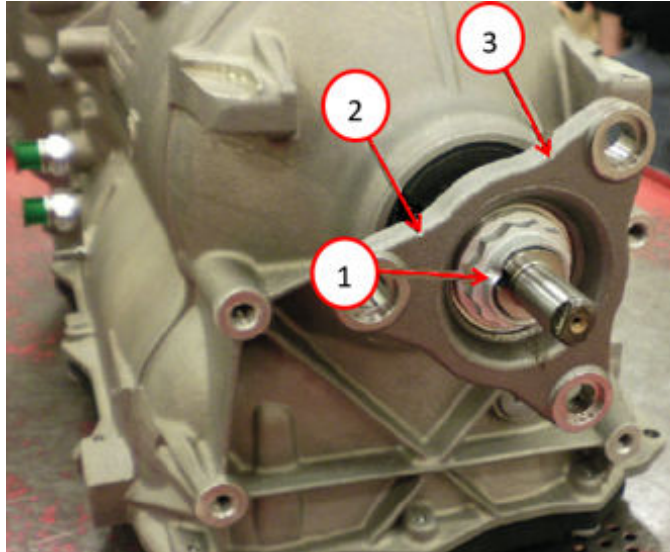

Fig. 6
9. Remove the transmission oil pan bolts Fig. 6.